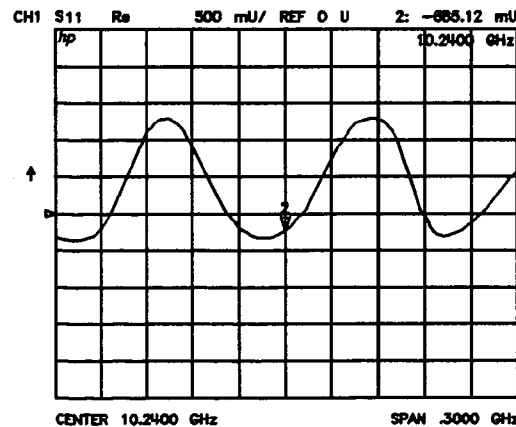

Figure 5–16. Real Format
**SWR** (SWR) reformats a reflection measurement into its equivalent SWR (standing wave ratio) value (Figure 5–17). SWR is equivalent to  $(1+\rho)/(1-\rho)$ , where  $\rho$  is the reflection coefficient. Note that the results are valid only for reflection measurements. If the SWR format is used for measurements of S21 or S12 the results are not valid.